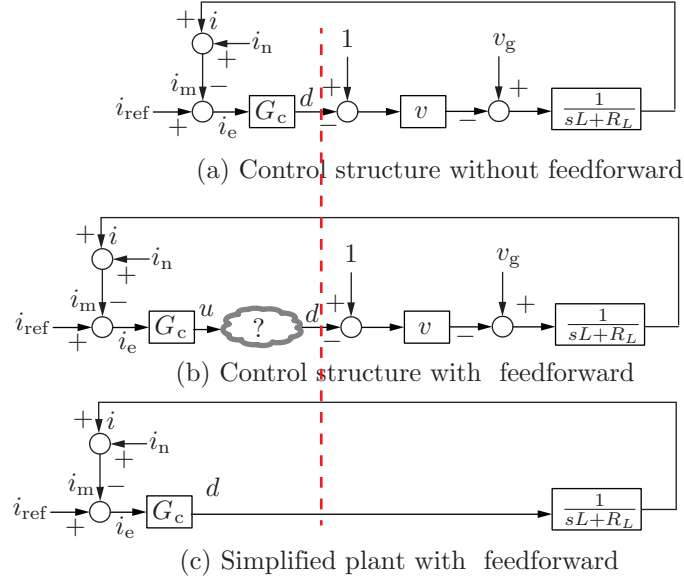

Figure 2: Control simplification with feed-forward. On the right side of the red-dashed line is your plant and on the left is your controller.
- Assume the controller,  $G_c$  produces an output,  $d$ , verify that Fig. 2 (a) shows the correct implementation of your KVL derived in the preceding question.
- We want to implement feed-forward to simplify our plant transfer function to be only  $1/(sL + R_L)$  so that the controller design becomes simplified as in Fig. 2 (c). To achieve this, sketch or provide a numerical relationship between the controller output,  $u$ , and the actual duty ratio,  $d$ , that goes into the PWM block. (Note under all circumstances,  $0 < d < 1$ ). Compare the relationship you have derived with Fig. 1 (a) to identify  $H_c$ ,  $c$ ,  $u_{ff}$  and the signs of the sum blocks shown with ?.